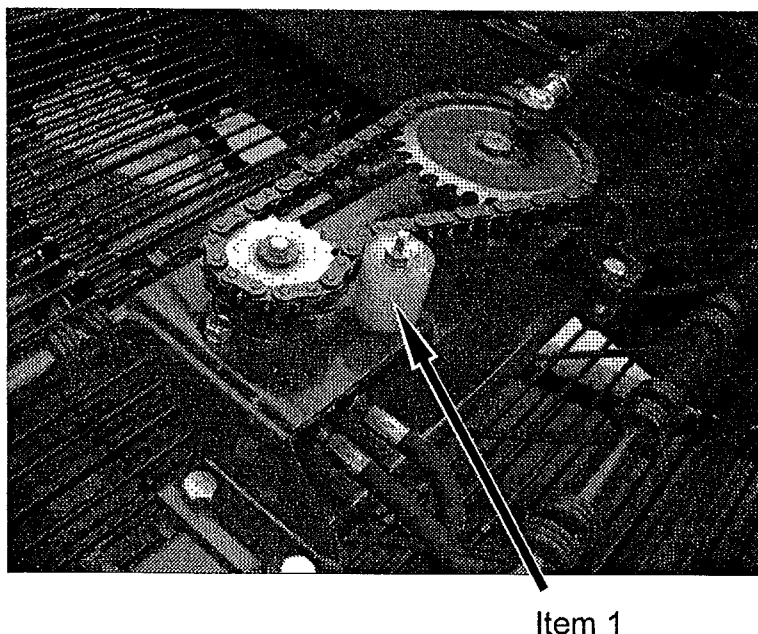

Fig 10.8
Drive chain can be adjusted by removing guard and adjusting nylon chain tension roller item 1 Fig 10.8.